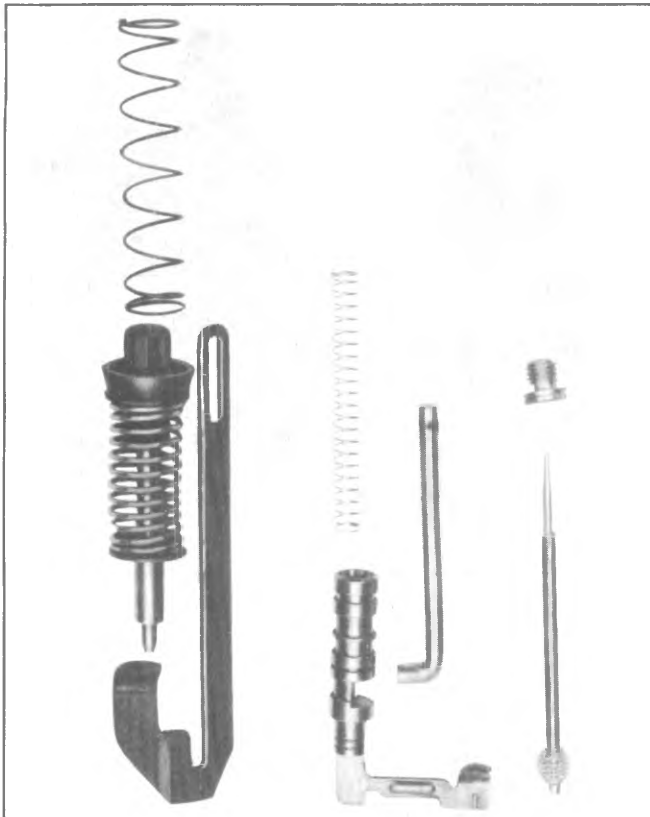

Fig. 6C-22--Metering Rod and Accelerator Pump
10. Remove pump return spring and power piston spring from float bowl (Fig. 6C-22).